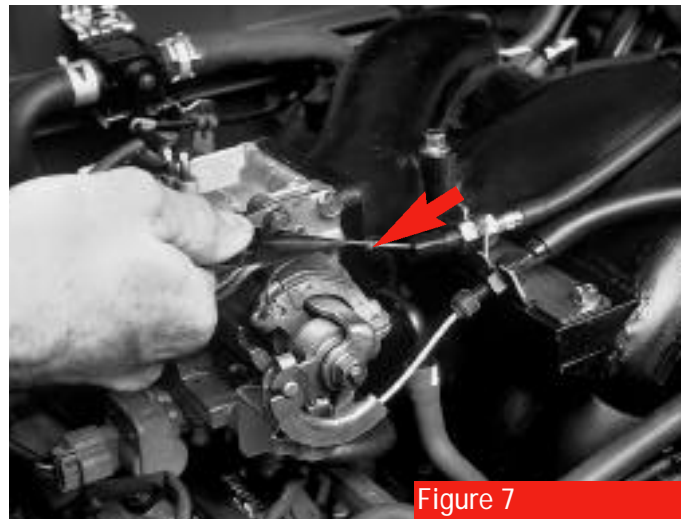
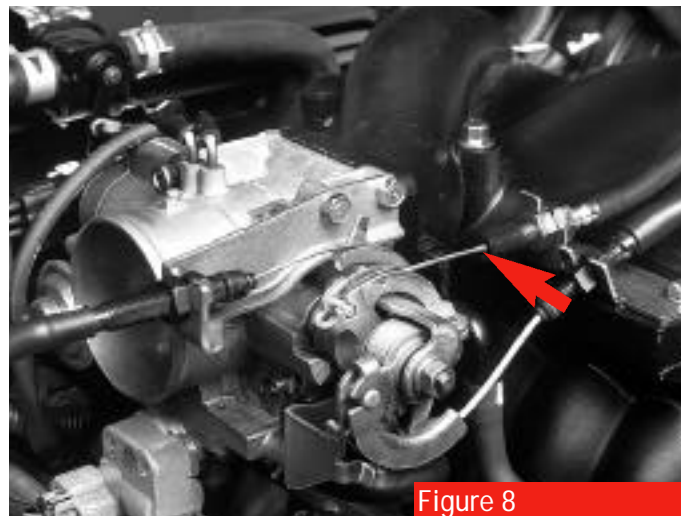

Figure 7
Figure 8
11. Note the tension and adjustment of the throttle cable and the transmission throttle-pressure (kickdown) cable (if equipped with an automatic transmission). You will need to re-create these adjustments during the assembly procedure. To help you remember, look for the small metal bead (the stake stopper, automatic transmission only) on the kickdown cable (**see arrow, figure 7**). If the cable is properly adjusted, the bead should be flush with the end of the cable's rubber sheath (**see arrow, figure 8**).